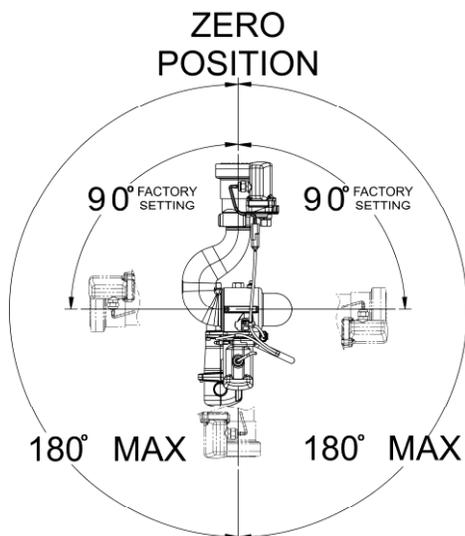
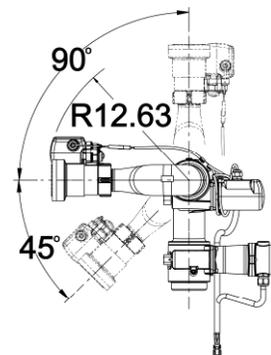

Figure 8
Figure 9
Before mounting the *Sidewinder*™ RF monitor, ensure that both the horizontal and vertical rotation envelopes are clear of all obstructions. See Figure 8 and Figure 9 for envelope dimensions. The left-right rotation limits are programmable. [They are factory set at 180° (+/- 90° from zero position)].
- 1) Ensure the left-right and up-down motors are aligned as shown in Figure 8. This is zero position.